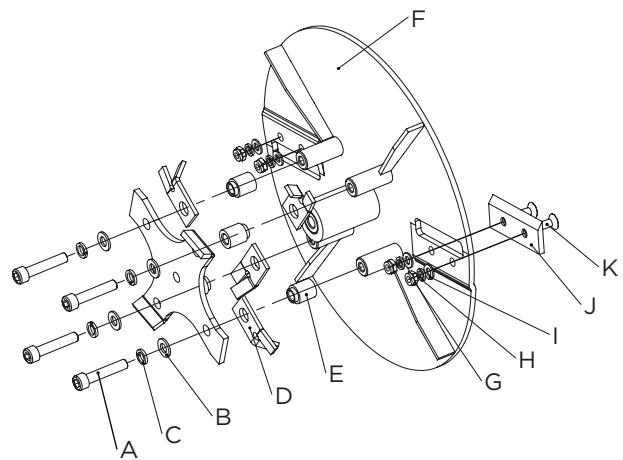

Figure 10
4. Note the assembly sequence of the hardware used to secure the hammers. Using an allen wrench remove the socket head cap screw (A) and related hardware. SEE FIGURE 10
5. Inspect the hammers (D), spacer tubes (E), and hardware. If the spacer tube (E) shows signs of wear, replace it. Inspect and flip, or replace the hammers (D).
6. Reassemble the hammers, spacers, washers, and cap screws. Torque the socket head cap screws (A) back tightly.